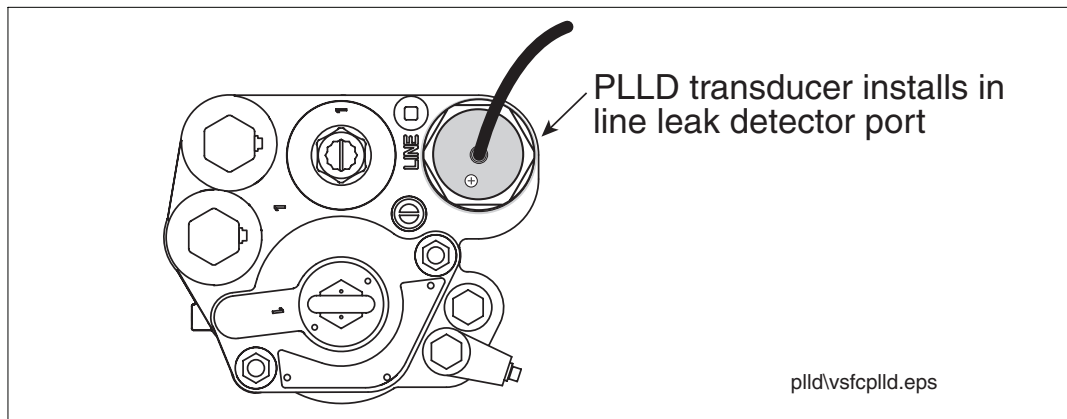

Figure 9. Locating discharge port plug for line leak transducer
3. If the pump does not have a Stage II vapor recovery device installed in the pressurized piping, remove the 2" NPT plug from line leak detector port. Install the PLLD transducer into the 2" NPT port (see Figure 9).